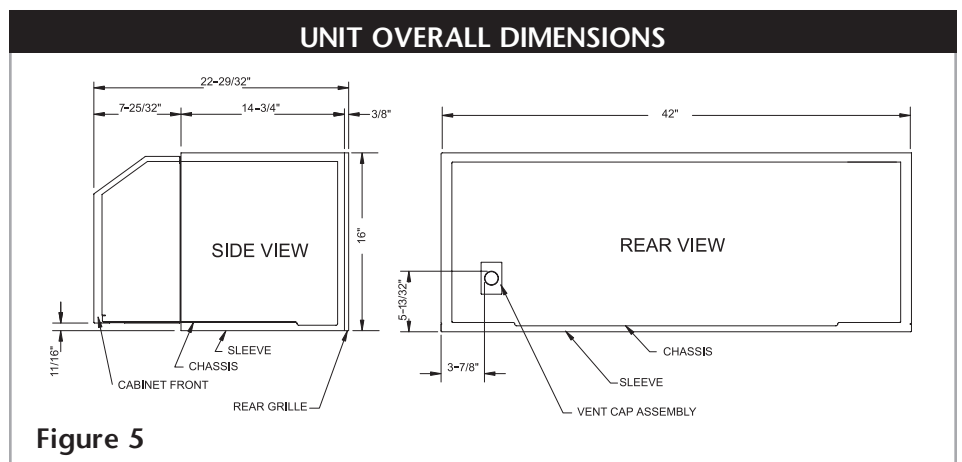
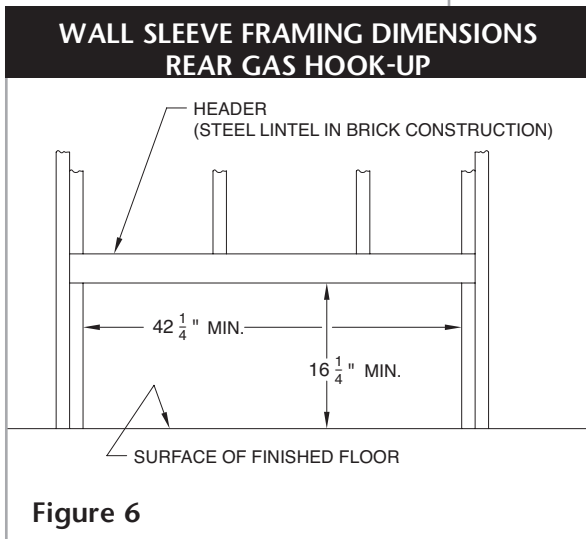

Figure 5
Figure 6
Dynaline™ 3 is designed to be installed through an exterior wall from 1" to 14-1/2" thick. To accommodate the unit's dimensions (see **Figure 5**), the wall opening must be framed as shown in **Figures 6 & 7**. For walls thicker than 14-1/2", consult factory regarding available extended length wall sleeves. The maximum wall thickness for rear gas hook-up is 12-5/8".
2. Cut an opening in the outside wall and frame to minimum opening. (See **Figures 6 & 7**.)